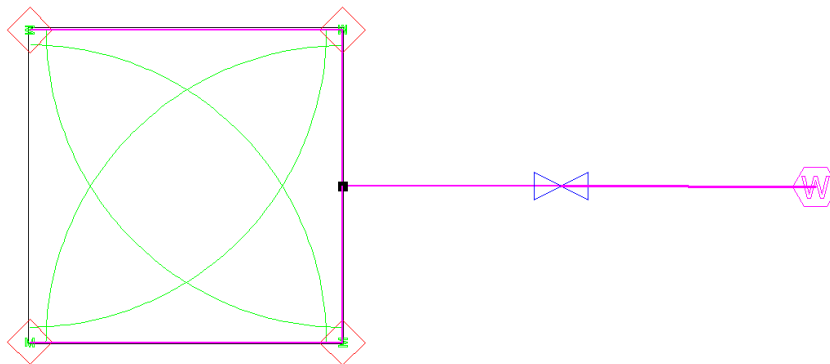

Figure 4-8
12. Select *Zone|Control Valve* and select the **1" (25mm) Electric Valve**. Place the valve on the zone pipe end. Select *Mainline|Pipe* and left-click on the valve, then left-click on the water supply. *Right-click|Restart*. See Figure 4-8.